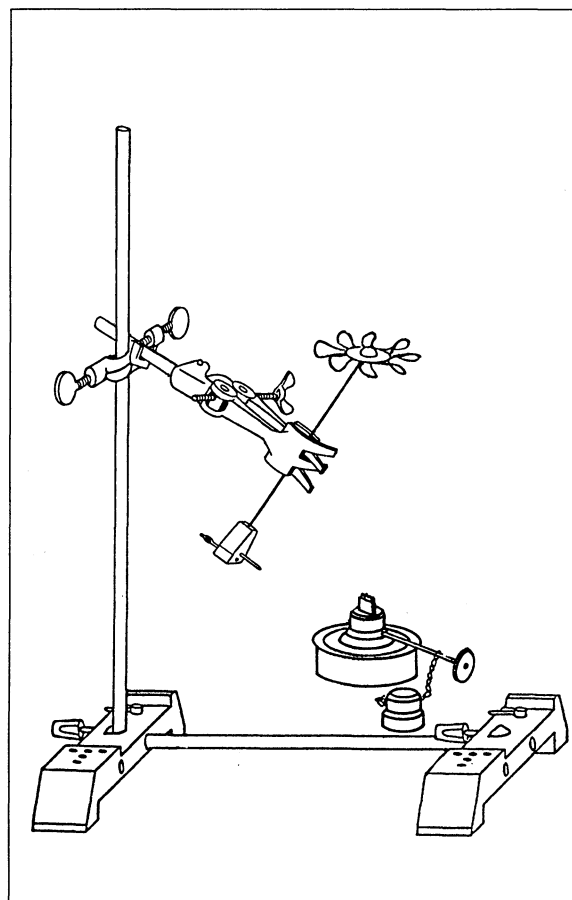

Fig. 1 Setup for investigating the transfer of heat in air
1. Set up the stand as shown in fig. 1.